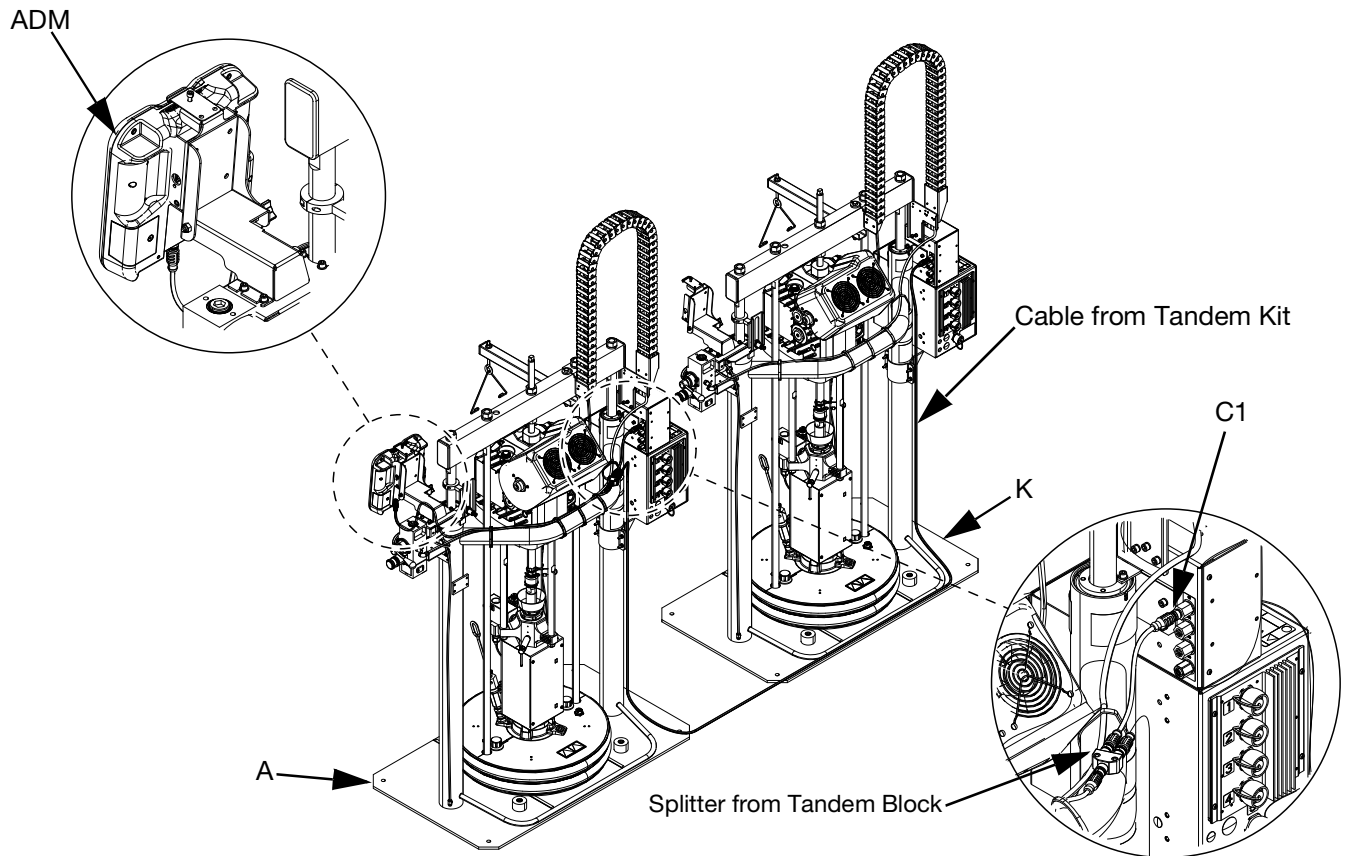

FIG. 10: Communication Connections
4. Use zip ties included in kit to secure cables to ram frame. See FIG. 10 for cable routing.